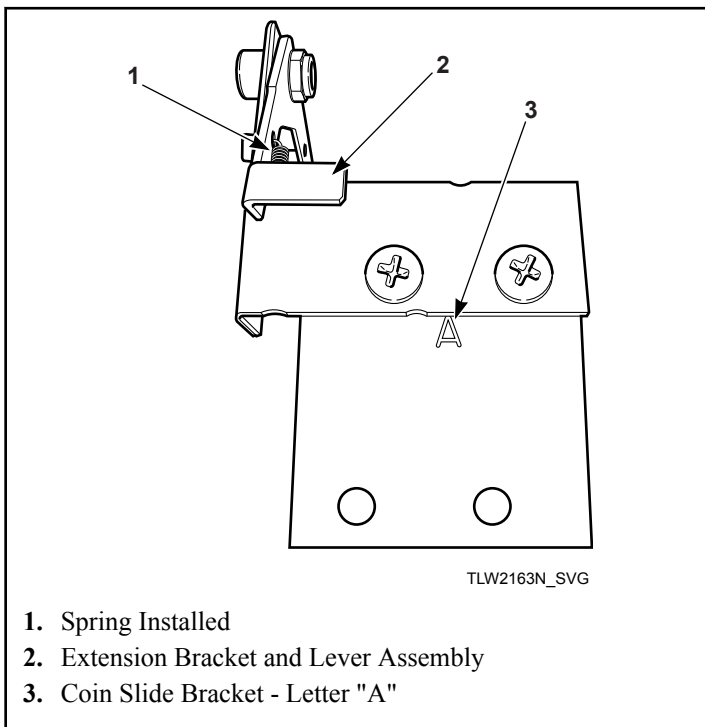

Figure 26
5. Install extension bracket and lever assembly onto coin slide bracket using two screws and locknuts. Refer to *Figure 26*.
**IMPORTANT: Install coin slide bracket with side marked "A" facing up and toward extension bracket and lever assembly. Refer to *Figure 26*.**